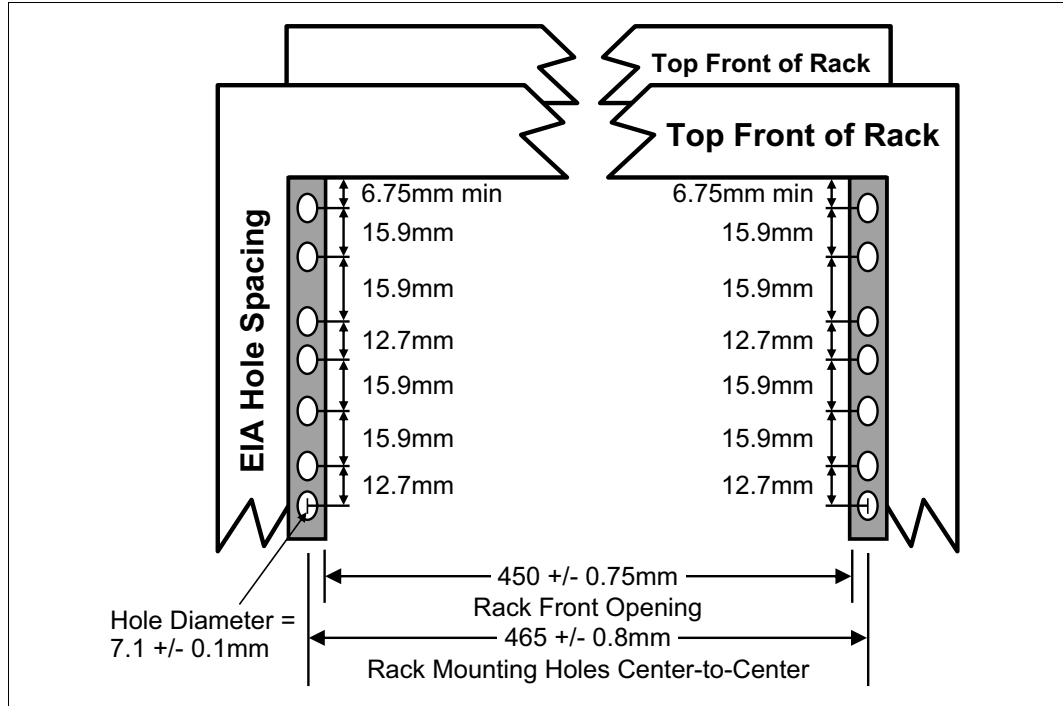

Figure 1-15 Rack specification dimensions, top front view
- ▶ The vertical distance between the mounting holes must consist of sets of three holes spaced (from bottom to top) 15.9 mm (0.625 in.), 15.9 mm (0.625 in.), and 12.67 mm (0.5 in.) on-center, making each three-hole set of vertical hole spacing 44.45 mm (1.75 in.) apart on center. Rail-mounting holes must be 7.1 mm ± 0.1 mm (0.28 in. ± 0.004 in.) in diameter. Figure 1-15 shows the top front specification dimensions.